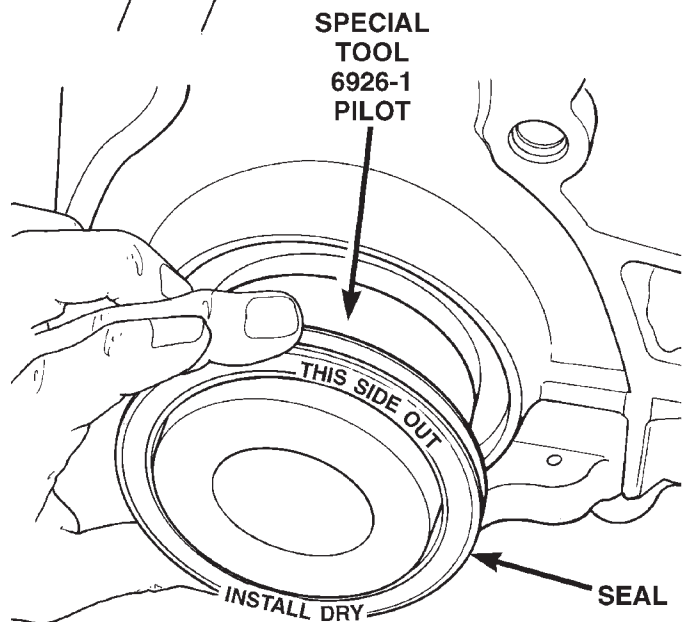

Fig. 71 Rear Crankshaft Seal and SpecialTool 6926-1
- (1) Place Special Tool 6926-1 on crankshaft. This is a pilot tool with a magnetic base (Fig. 71).
- (2) Position seal over pilot tool. Make sure you can read the words **THIS SIDE OUT** on seal (Fig. 71). Pilot tool should remain on crankshaft during instal-